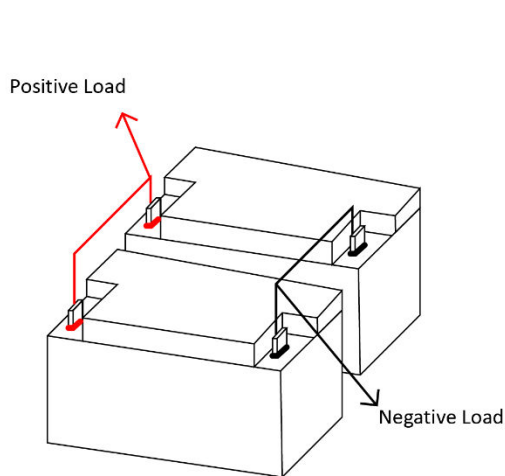
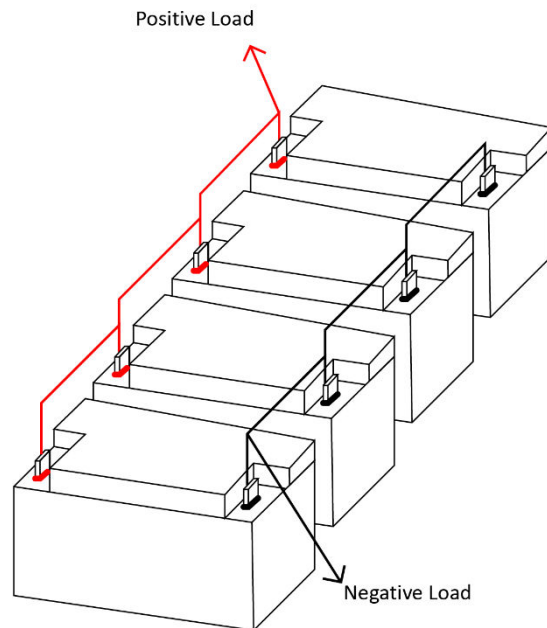

Figure 3.1: Two 10012 Batteries connected in Parallel to create a 12V 200Ah Battery Bank
Figure 3.2: Four 10012 Batteries connected in Parallel to create a 12V 400Ah Battery Bank
7. Repeat steps 3-6 for additional batteries in the system. An example of a finished connection can be found below in Fig. 3.1 and Fig. 3.2.